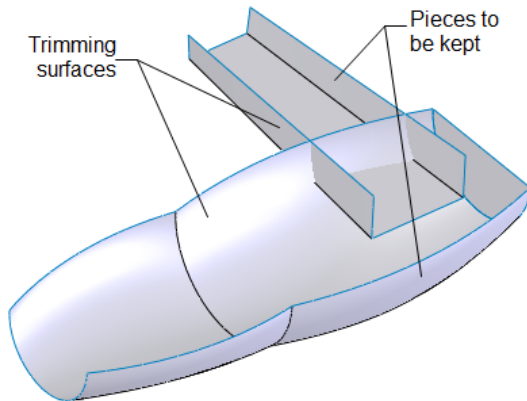
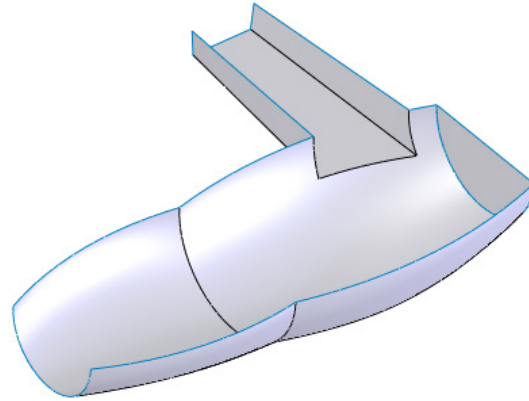

Figure 1-146 Trimming surfaces and pieces to be kept
Figure 1-147 Resultant trimmed surface
2. Select the trimming surfaces and the pieces to be kept, as shown in Figure 1-146. Next, choose the **OK** button from the **Trim Surface PropertyManager**. Figure 1-147 shows the resultant trimmed surface.